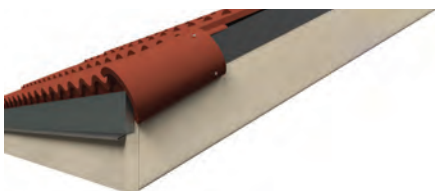

Figure 4.3.6
- 4 Fasten with 2 fasteners.** Use two fasteners, one in the fascia board and one in the nailer (or roof deck) as shown in Figure 4.3.6. In high-wind regions, an extra fastener may be added at the lower end of the Hip & Rake, as depicted in Figure 4.3.7.